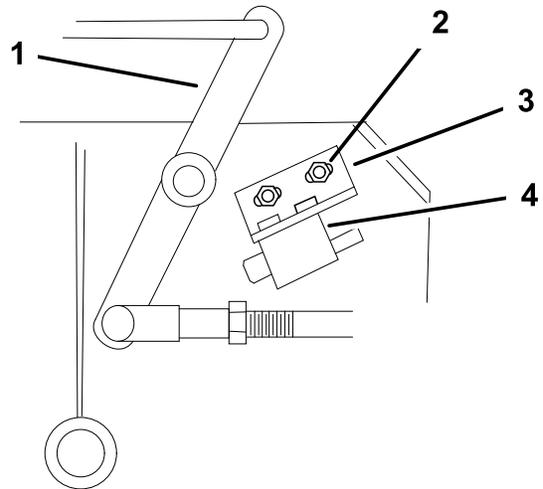

Figure 48
4. If needed, adjust the blade safety switch by loosening the bolts holding the switch bracket (Figure 48).
Note: Make sure the bellcrank **does not** touch the switch body or damage to the switch could occur (Figure 48).